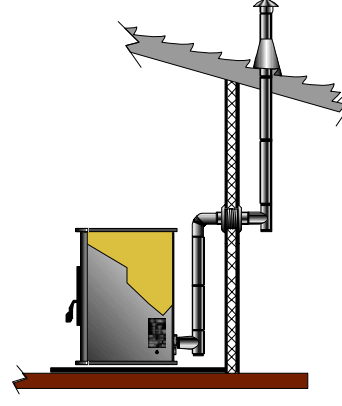

Figure 24
-  **HORIZONTAL, OUT THE WALL, THEN VERTICAL THROUGH THE EAVES AND ROOF**, terminating with a rain cap. Figure 24.